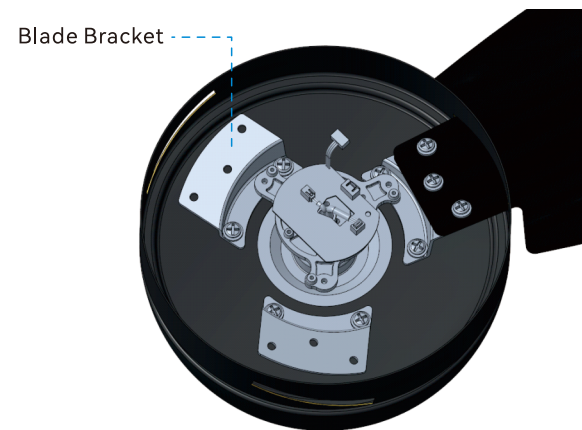

Fig 2.1
2.1 Locate 9 blade attachment screws and washers in the hardware pack. Slide the blade through lamp cover and align three blade holes with the screw holes of the blade bracket and fasten the blade with the screws and washers as shown in Fig 2.1.